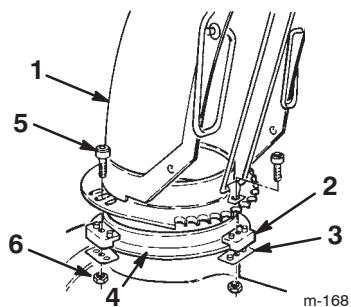

Figure 4
1. Apply a light coat of low-temperature grease to the chute ring (Fig. 4).
2. Set the discharge chute (open side forward) onto the discharge opening so that the chute retainers are on the chute ring (Fig. 4).
3. Tighten the screw and the locknut on the left side to position the chute retainer against the chute retainer plate and to secure the discharge chute to the chute ring (Fig. 4).
4. Push the other chute retainers toward the discharge chute (slotted) and tighten the screws (Fig. 4).
5. Ensure that the chute rotates freely on the chute ring. If the chute binds, move the right-hand retainer outward (Fig. 4).